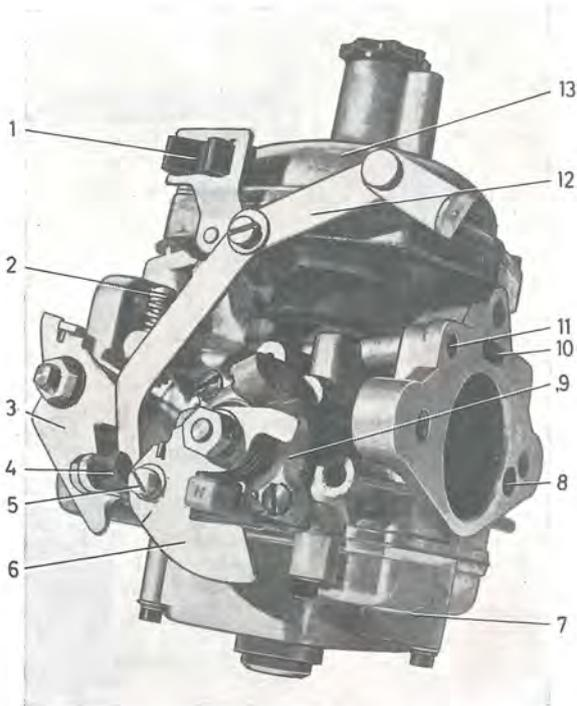

Fig. 2-52. Carburettor, rear, from the left
To facilitate starting during cold weather, the rear carburettor is fitted with a cold start device (Figs. 2-52 2-54 and 2-55).
The cold start device consists of a valve disc (3, Fig. 2-54) which is provided with four calibrated holes and an elongated opening as well as a disc (4) mounted on a spindle which is operated by the choke control. On the same spindle, outside the cover (5), there is a cam disc (6, Fig. 2-52) with connection for the choke control pull wire. When the cold start device is engaged, the valve disc turns and this links up the channel (1, Fig. 2-54) from the floatchamber via one or several of the calibrated holes to the channel behind the valve disc and then the opening to the channel (2), which terminates in the venturi between the vacuum plunger and choke flap. Through this link-up, the engine receives extra fuel (a richer mixture), to facilitate cold starting. At the same time, less air is supplied by means of the choke device. When the choke control is pushed in, the valve disc
turns and closes the inlet to the channel. At the same time as the cam disc is operated, the throttle flap opening is also influenced in such a way that turning the cam disc opens the throttle through the fast idle stop screw (4, Fig. 2-52) and the lever, before any of the calibrated holes open the connection to the fuel drilling. With this arrangement, the idling speed can if necessary be raised by the driver of the vehicle during the warming-up period of the engine.